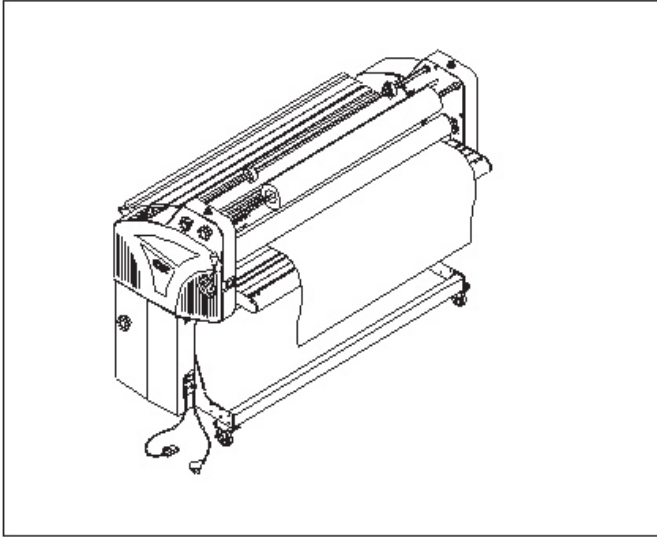

Fig 4
3. The laminator should be positioned to allow exiting film to flow freely to the floor or a work table (Figure 4). Accumulation of laminate immediately behind the laminator as it exits the equipment may cause the film to wrap around the pull rollers, resulting in a "jammed" condition.